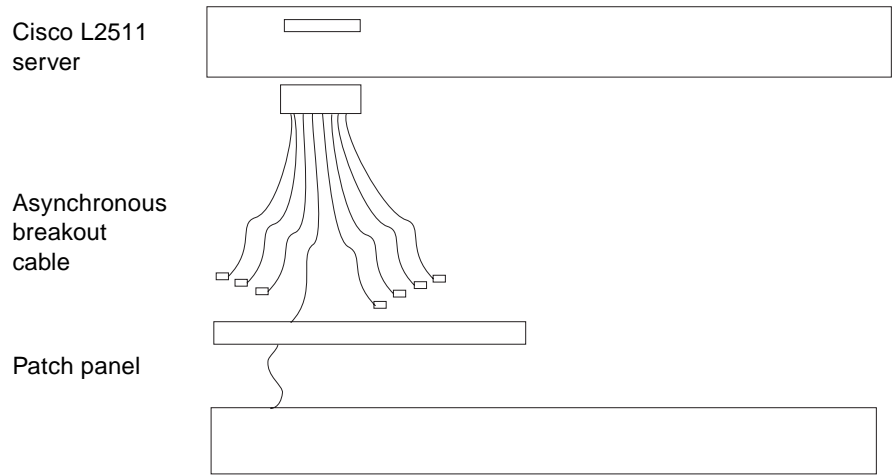

FIGURE 4-3 Patch Panel Connection Between a Cisco L2511 Server and a Netra X1 Server
- Connect the breakout cable to a patch panel and use the straight-through patch cable (supplied by Sun) to connect the patch panel to the server (see FIGURE 4-3).